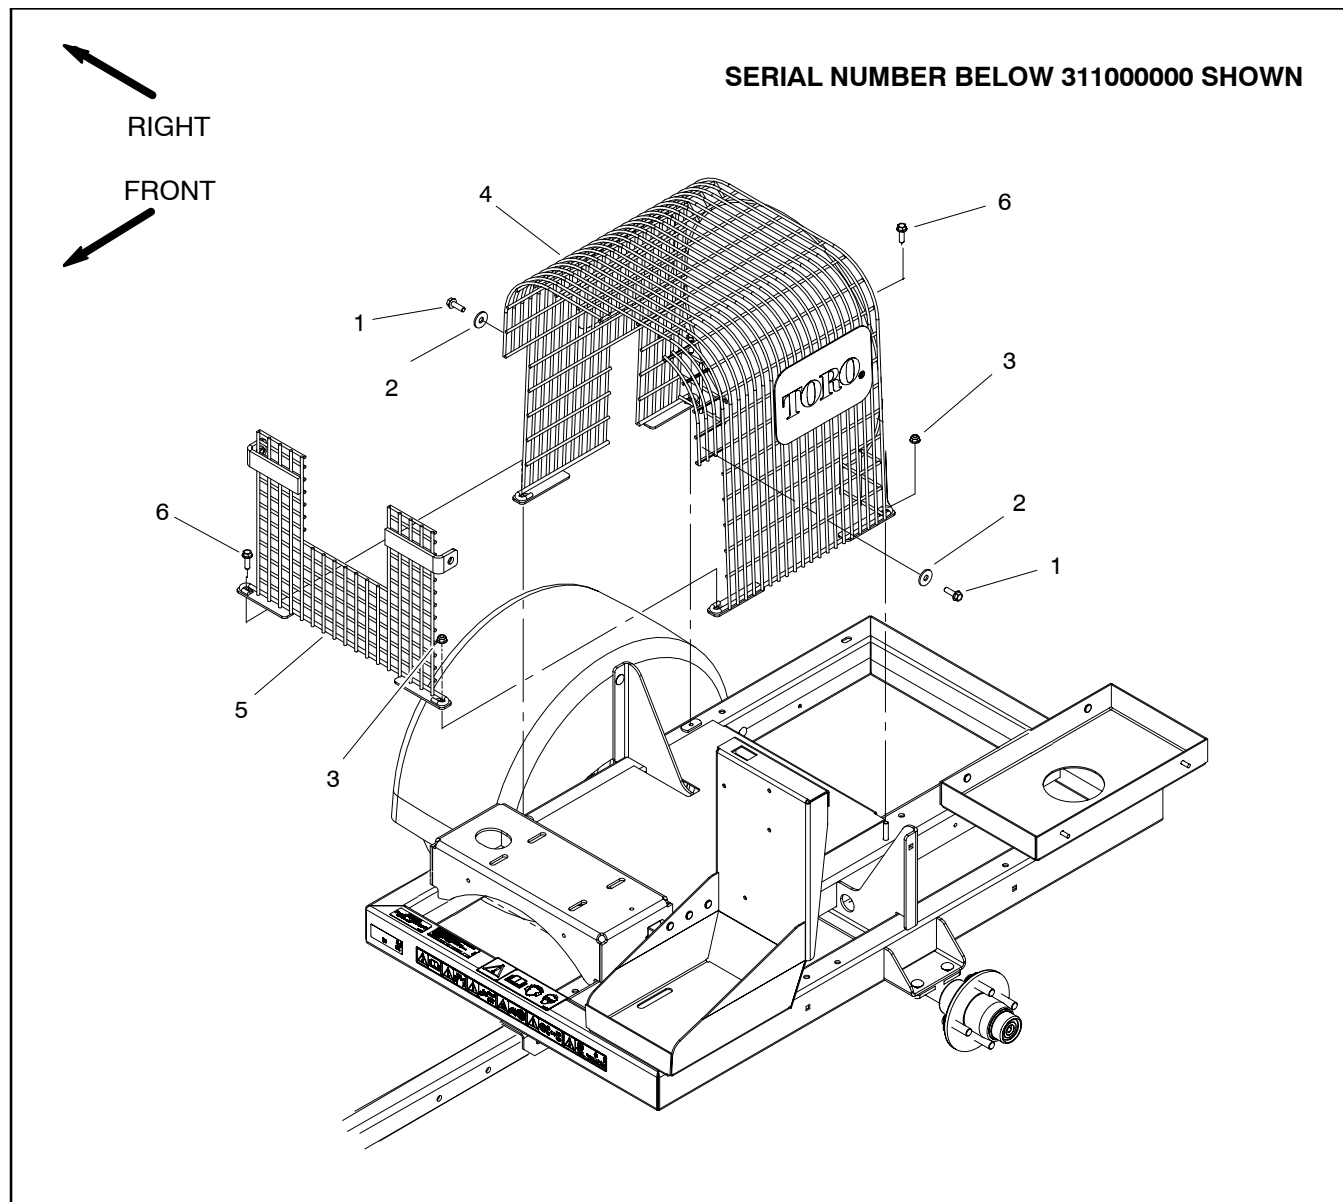

Figure 6
3. Remove guards from machine as needed using Fig. 6 or 7 as a guide.
1. Install removed guards from machine using Figs. 6 or 7 as a guide.